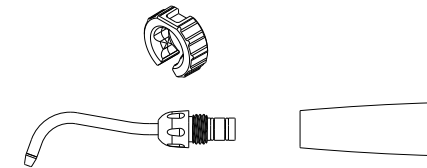

Figure 7
1. Screw on the nozzle clockwise to the handpiece sleeve and lock it with the wrench. (See Fig. 7)